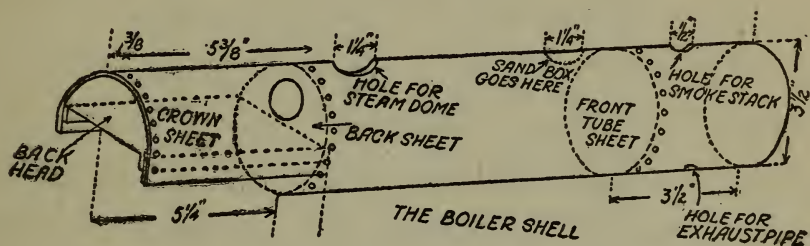
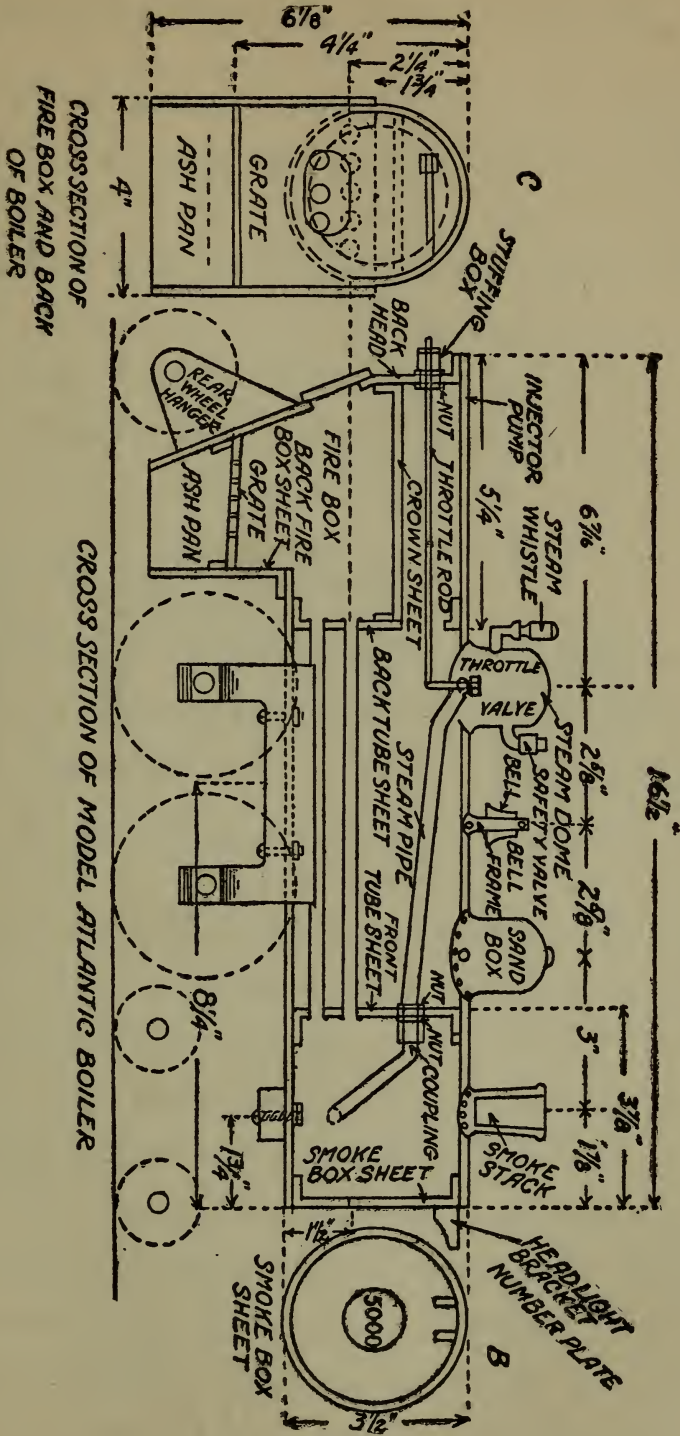

Fig. 54. The Boiler Shell
Fig. 55
*The Shell.*—Get a seamless copper tube with a wall1  $\frac{1}{8}$  inch thick,  $3\frac{1}{2}$  inches in diameter and  $16\frac{1}{2}$  inches long; this forms the *shell*, as the outside of the boiler is called. Saw out one end of the tube, or shell,  $1\frac{1}{2}$  inches deep and  $5\frac{1}{4}$  inches long as shown at A in Fig. 54. This done, drill three rows of holes around the shell so that the *sheets* can be riveted to it later. Drill the first
make the hole for the stack  $\frac{1}{2}$  inch in diameter and have its center  $1\frac{7}{8}$  inches from the front, and the one from the *steam dome*  $1\frac{1}{8}$  inches in diameter and have its center  $6\frac{1}{2}$  inches from the back end of the shell, all of which is shown in Figs. 54 and 55.
*The Smokestack, Bell, Sand Box and Steam Dome.*—The next thing to do is to make and rivet the *smokestack*, the *sand box*, the *bell frame* and the *steam dome* to the top of the shell as shown in Fig. 55. This is a *cross-section* view of the whole boiler and it will give you all the dimensions you need that are not shown in Fig. 54.
inch holes on opposite sides of the dome as shown at A in Fig. 55; one of these is for the steam whistle and the other for the safety valve. The dome must, of course, have a wide flange so that it can be riveted securely to the boiler shell.
marked on them. Drill two holes through the saddle, four through the pedestal and two through the hanger so that they can be riveted to the boiler shell and fire-box as shown at A in Fig. 55.
When you have done all these things, smooth up the castings and then bolt the saddle to the under side of the boiler with its center  $1\frac{3}{4}$  inches from the front end, see A, Fig. 55 again. Bolt the pedestal to the boiler in a line with the saddle and with its center  $8\frac{1}{4}$  inches from the front end. You must screw these bolts up tight or else the boiler will leak.
upper part of the sheet for the steam pipe. Rivet the sheet to the shell  $3\frac{7}{8}$  inches from the front end of the boiler, as shown in Fig. 55.
Bend the pipe as shown in Fig. 55 and screw a small stock-cock described in the previous chapter—on one end for the *throttle valve*; screw or otherwise fix a handle to the valve  $\frac{3}{4}$  inch long
Rivet one end of the crown sheet to the back tube sheet so that the upper surface of the former will be *flush*, that is even, with the lower edge of the large hole in the back tube sheet. Go ahead now and rivet the back tube sheet to the shell of the boiler at a distance of  $5\frac{1}{4}$  inches from the extreme back end as shown at A in Fig. 55. Rivet the sides of the crown sheet to the edges of the shell on both sides as shown in Fig. 54.
Now go back to the front end of the boiler and make the smoke-box sheet which is shown at B in Fig. 55. This is a copper sheet cut to the same size as the tube sheets but has a  $\frac{1}{2}$ -inch flange. Solder or otherwise fix, a number plate 1 inch in diameter on the center of it so that it will project out  $\frac{1}{2}$  an inch.
Make a pair of brackets for the headlight and solder them to the smoke-box as shown at B in Fig. 55. You don't need to screw the sheet in the end of the smoke-box because the branched steam pipes have to be put in and fastened to the T. The headlight and the cab can be made after the boiler is mounted on the running gear and all the other finishing touches can be put on then.